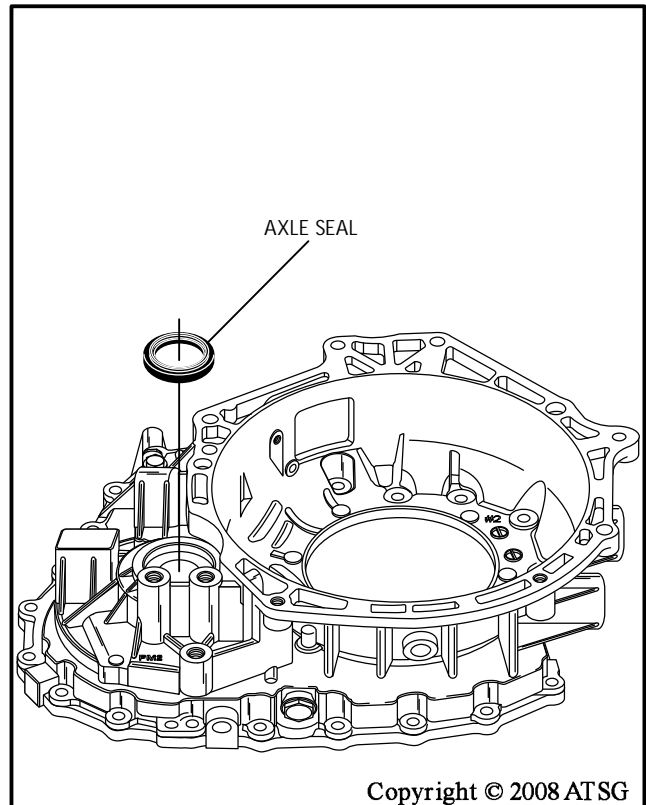

Figure 96
8. Install axle seal into the converter housing, as shown in Figure 96, using the proper driver.